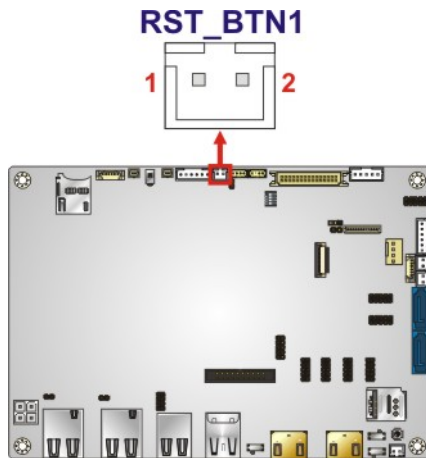

Figure 3-23: Reset Button Connector Location
- CN Location:** See **Figure 3-23**